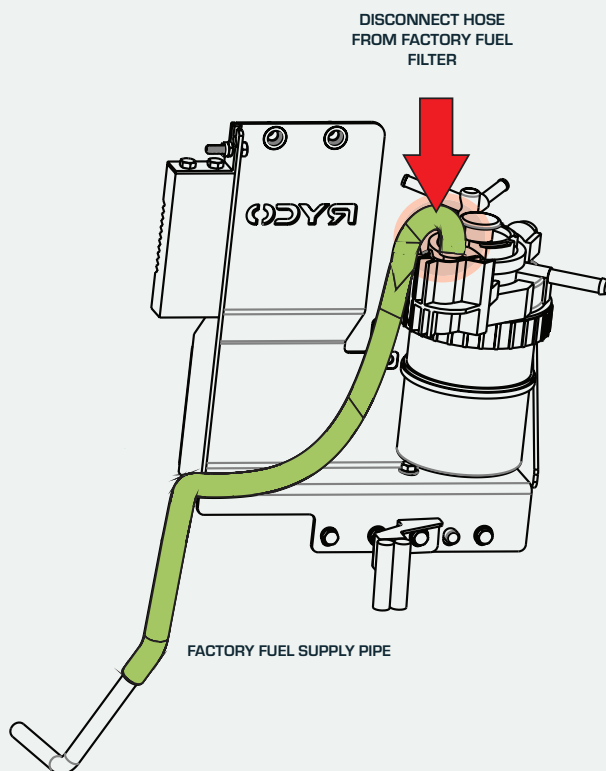
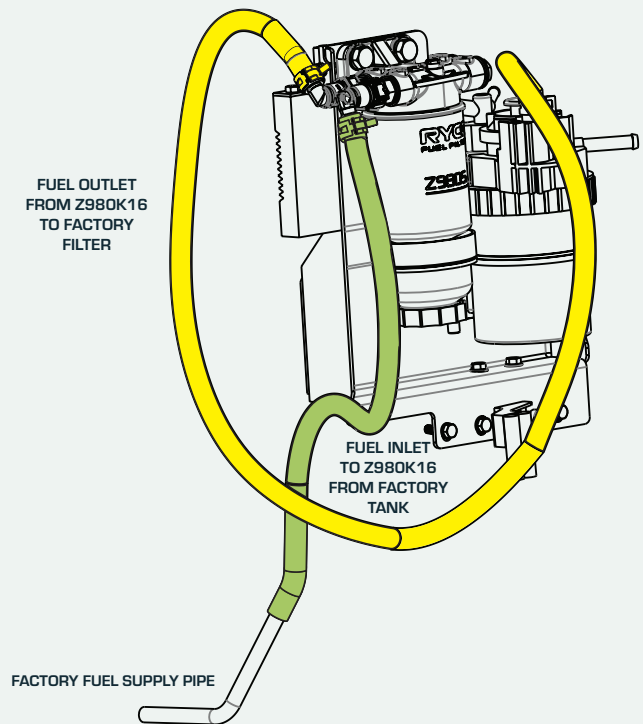

FIGURE 5
FIGURE 6
- 1 Locate the fuel inlet hose at the factory fuel filter. Loosen the factory fuel hose clamp and disconnect the fuel supply line coloured green in FIG. 5) from the factory filter. Have a rag ready to capture any diesel that may spill out of the fuel line and the fuel filter. Then install supplied fuel hose clamp and insert the supplied elbow connector (MS4081) onto the end of fuel supply line, do not tighten fuel hose clamps yet.
- 2 Mount the Z980K16 fuel filter assembly onto the fuel filter bracket facing to the engine using the two (2) black M10 bolts and washers supplied with the Z980K16
- 3 Connect the fuel supply line which has been prepared in step 5 to the inlet port of the Z980K16 (coloured blue in FIG. 6) by pushing the elbow connector onto the metal quick connector until you hear a “click”.
- 4 Connect HF9808 hose to the outlet port of the Z980K16 (coloured yellow in FIG. 6) by pushing the elbow connector onto the metal quick connector until you hear a “click”, and route the other end as per FIG. 6. Connect the end of the fuel hose to the factory fuel filter inlet port, then secure with a hose clamp.